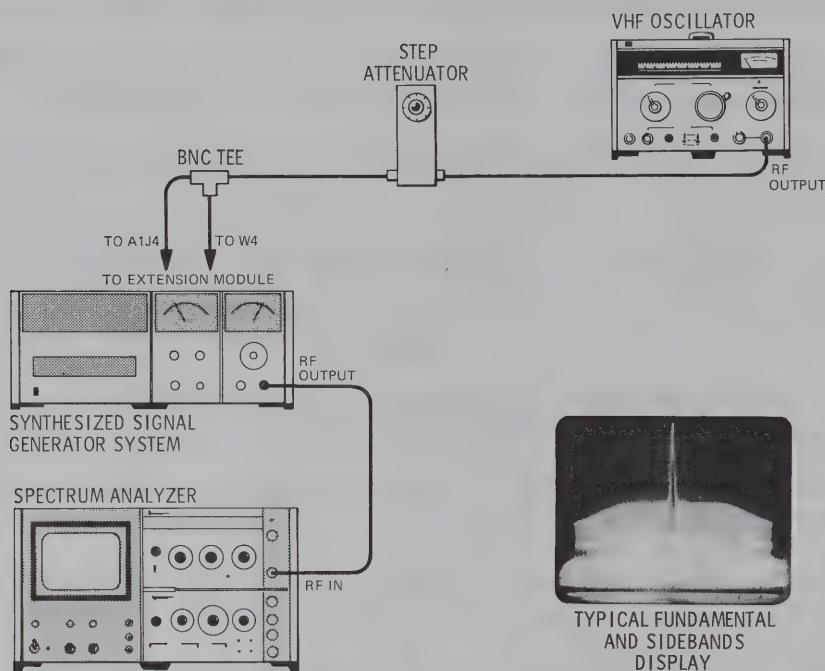

Figure 5-7. YIG Loop Gain and Bandwidth Adjustment Test Setup
1. Interconnect equipment as illustrated in Figure 5-7. The TEE connection is made as follows:
11. Adjust YIG loop gain potentiometer A7R20 until flatness of sidebands (about 40 dB below fundamental) is ≤ 3 dB within ± 500 kHz of fundamental. Refer to Figure 5-7 for illustration of typical waveform. Record the YIG Loop 3 dB bandwidth.